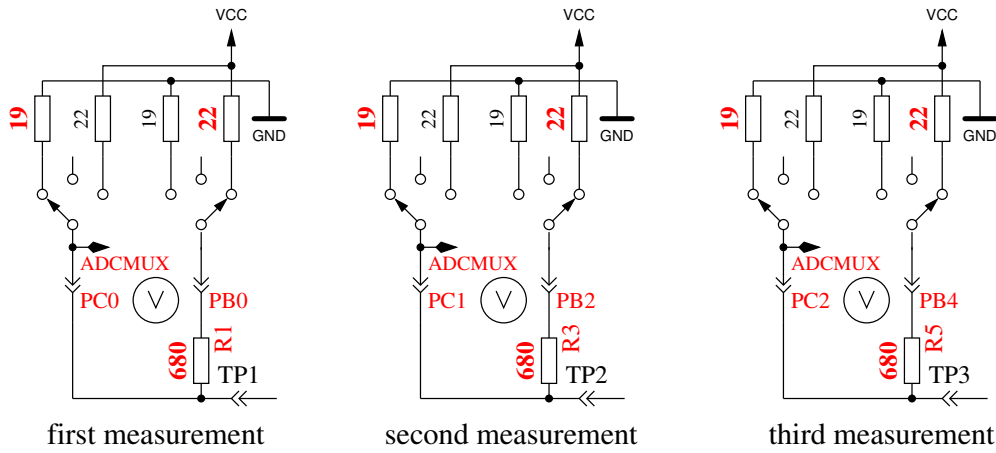

Figure 5.65. Measurement of internal resistance of Port C switched to GND
5. **This step tests the capability of GND (-) connected 470kΩ resistors (H) to pull the test pins to GND.** Row 1 shows the text “RH-”. Row 2 should display zero for all three pins.
6. **This step tests the capability of VCC (+) connected 470kΩ resistors (H) to pull the test pins to VCC (+).** Row 1 shows the text “RH+”. The results are shown als difference to VCC and should be near zero. Great differences from the best value for test 5 and 6 are errors such as isolation problem, flux material or damaged port.
8. **Measuring of internal resistance of pin output switched to the GND signal.** This test and the follwing tests will only be done, if the option AUTO_CAL is selected. The internal resistance of the port C outputs switched to GND (-) are measured with the current of to VCC (+) switched 680Ω resistors, see Figure 5.65. Only the three pins of the ADC port are measured, the resistor port B (PB0,PB2 and PB4) can not be measured without hardware modification. Is is assumed that the port resistance of the different ports are nearly identical. The resistor value will be shown in the next test.